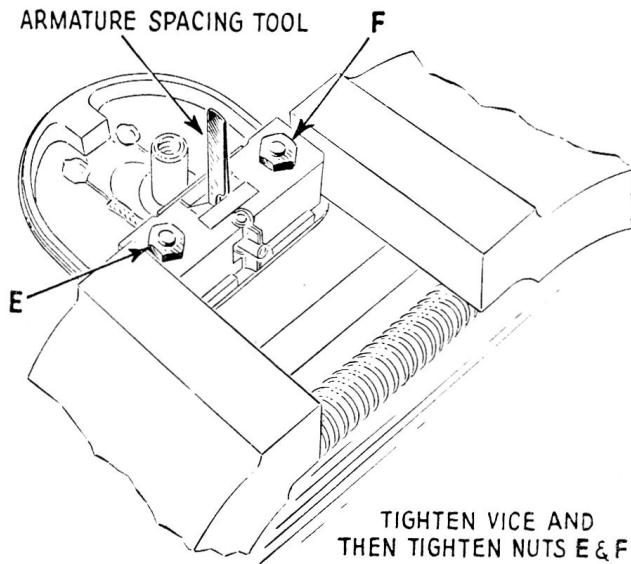

Figure 7—Magnetic pick-up in vise
- (d) Place the new rubber pivot supports in their proper place. This may be either tubing or strips. Reassemble the pole pieces and coil, and new rubber damping block in place with armature spacing tool in place as shown in Figure 7. Now place in a small vise and clamp the pole pieces together, as shown in Figure 7, with the spacing tool in place. Tighten nuts E and F, remove pick-up from vise and remove spacing tool.